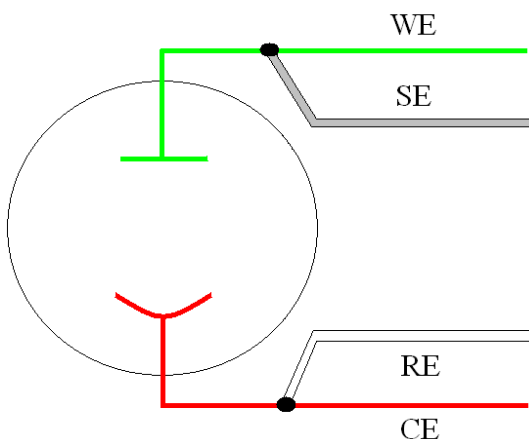

Figure 6. Two-Electrode Connection
a) Batteries, capacitors, resistors, fuel cells, and some sensors are generally connected using a two-terminal connection (Figure 6). The connectors for the cable leads are designed to allow easy interconnection of the working/sense and reference/counter leads. **Note:** If your cell has low impedance (battery) and/or your experiment generates currents in excess of 100mA, do not connect the leads into one another for a two-terminal connection. Instead, connect the leads independent of one another to their proper terminal at the cell to prevent voltage offsets that can result from milliohms of contact resistance in a “piggy-back” connection as shown below.